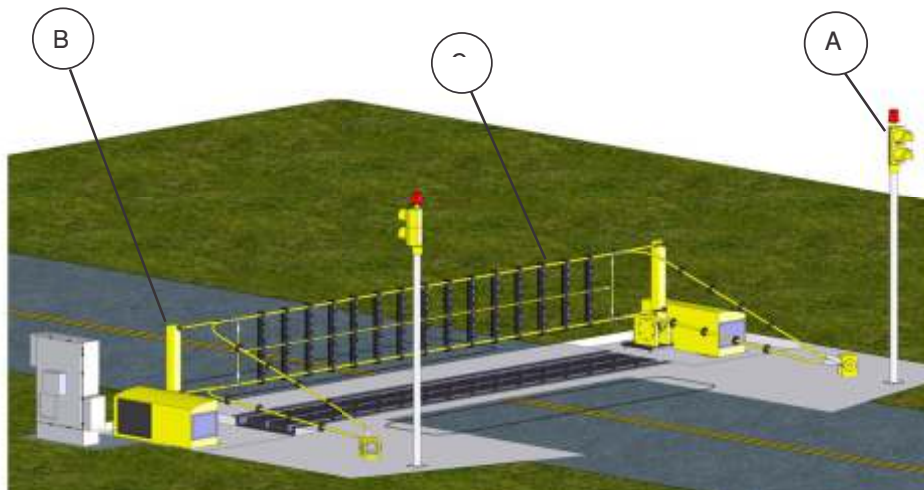

Figure 6
Verify that safety warning equipment (A)(Figure 6) is working properly.
Check that the net (C) Figure 6 goes up and down in a continuous motion and that the arms (B) travel in unison.